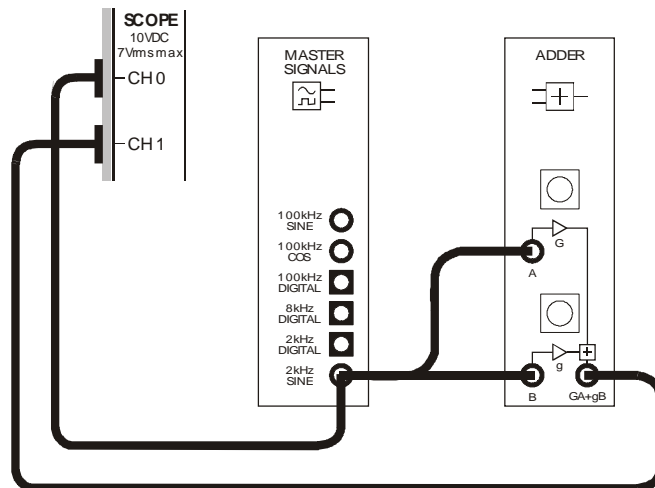

Figure 2
13. Connect the set-up shown in Figure 2 below.